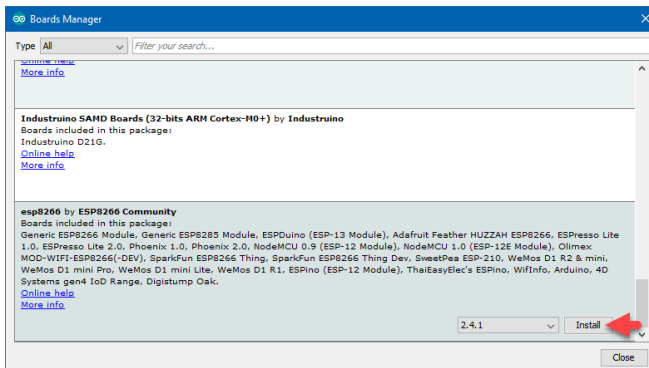

Figure 1.8. Install ESP8266 library
- Go to **Tools** → **Board** menu, open **Boards Manager**, and install **esp8266** platform as shown in Figure 1.8.